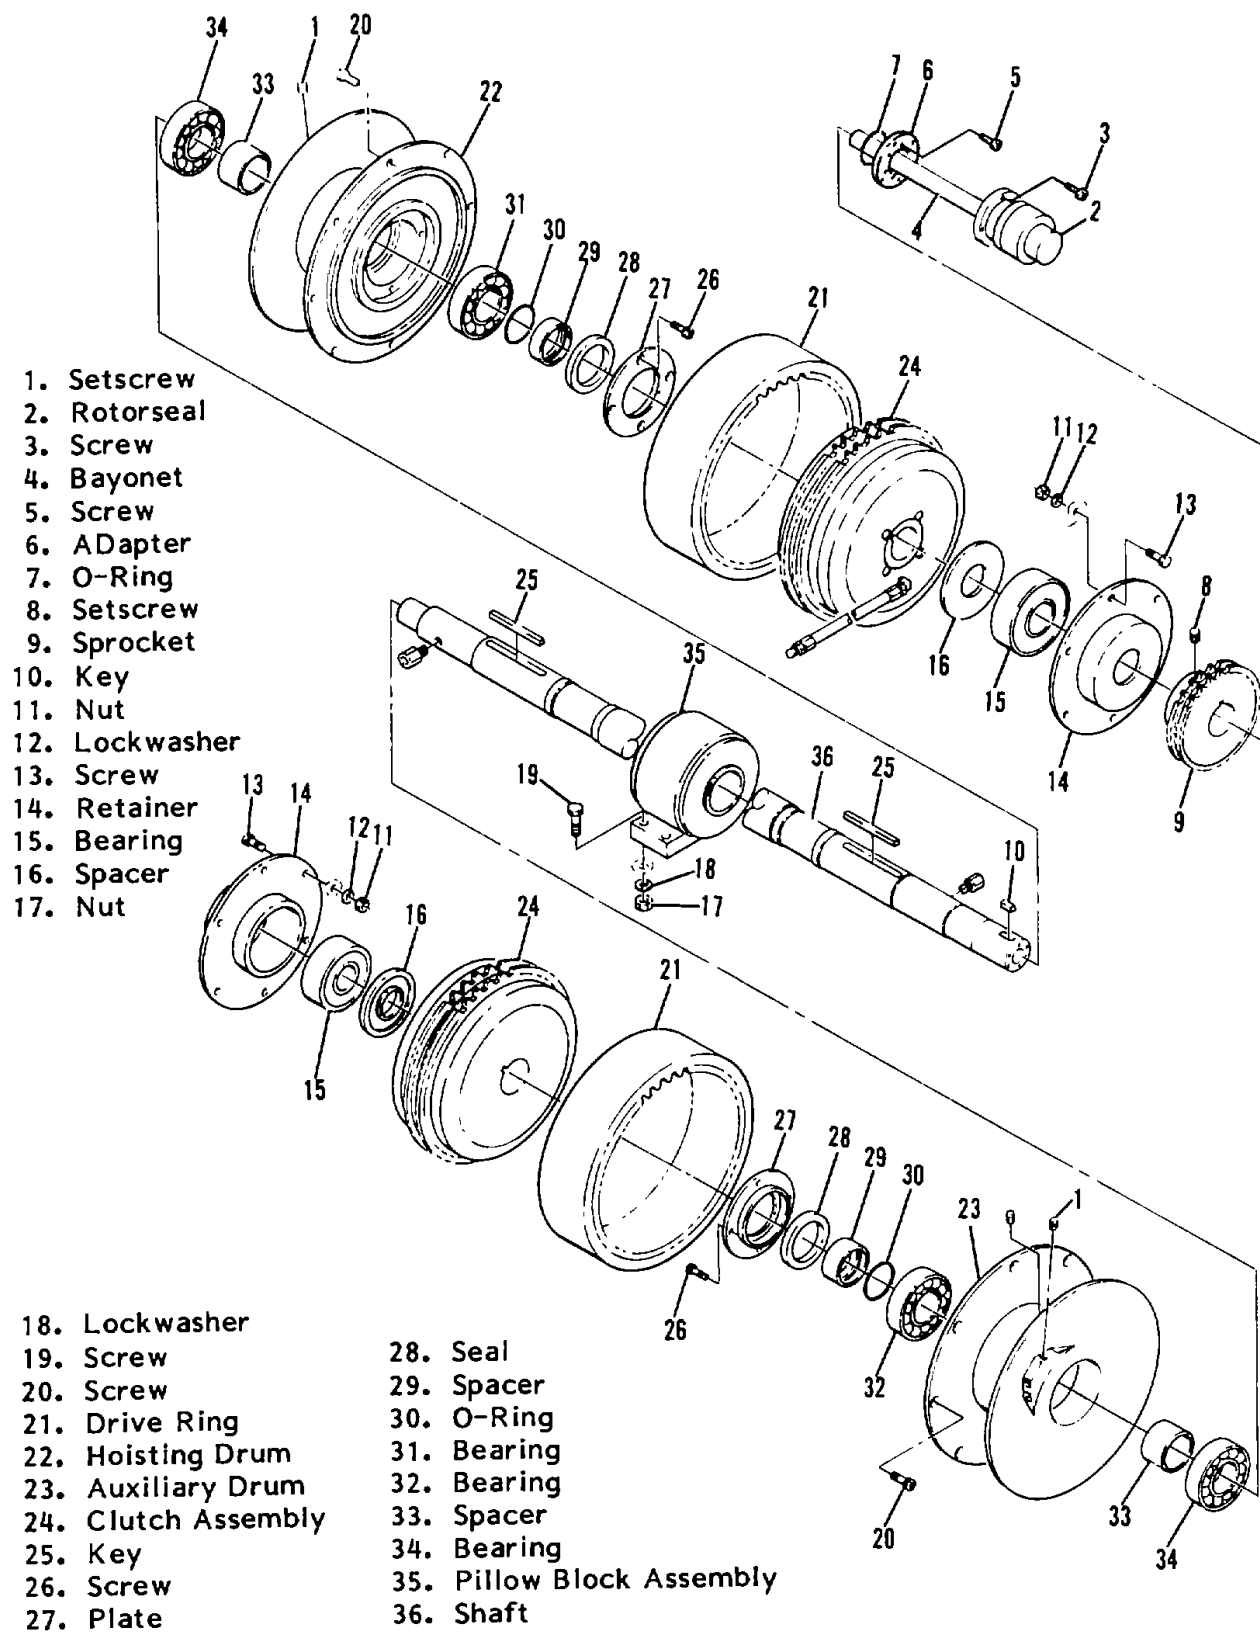
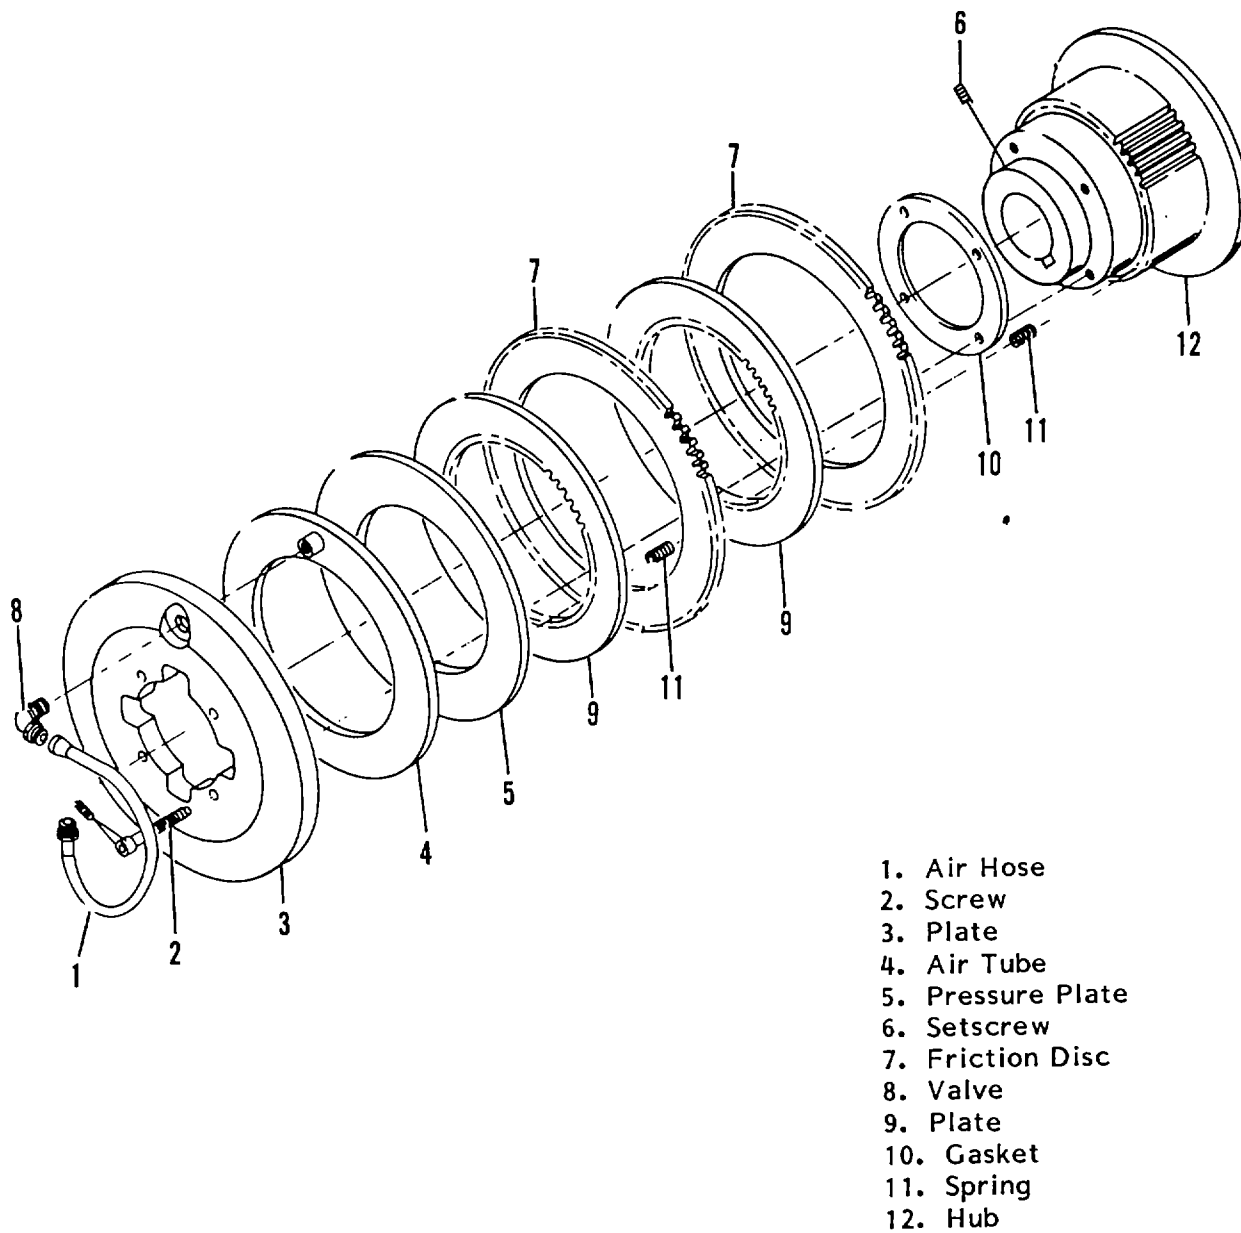

Figure 4-26. Hoisting and Auxiliary Drum
Figure 4-27. Hoisting and Auxiliary Drum Clutch
4-9.4 Hoisting and Auxiliary Drum. (Figure 4-26).
4-9.5 Hoisting and Auxiliary Drum Clutch. (Figure 4-27).
- a. Remove screws (20, figure 4-26) and withdraw driving ring (21) over the air tube holding plate (3, figure 4-27).
- b. Remove the split friction discs (7) from the clutch assembly.
- c. Place new friction discs (7), in halves, in clutch assembly.
- d. Replace driving ring (21, figure 4-26) and install screws (20).
- e. Check clearance by applying and releasing air pressure to clutch, and measuring the total axial movement of pressure plate (5, figure 4-27). Clearance should be 3/32 to 1/8 inch.
- b. Disconnect air hose (1, figure 4-27) from drum shaft. Hold release valve (8) securely and remove air hose (1) from valve.
- c. Unscrew valve (8) from air tube fitting.
- d. Remove screws (2), holding plate (3) and air tube (4).
- e. Install a new air tube (4) in holding plate (3). Install plate and screws (2). Torque screws to 4,400 in.-lbs.
- f. Install release valve (8) and air hose (1). Install air hose in drum shaft.